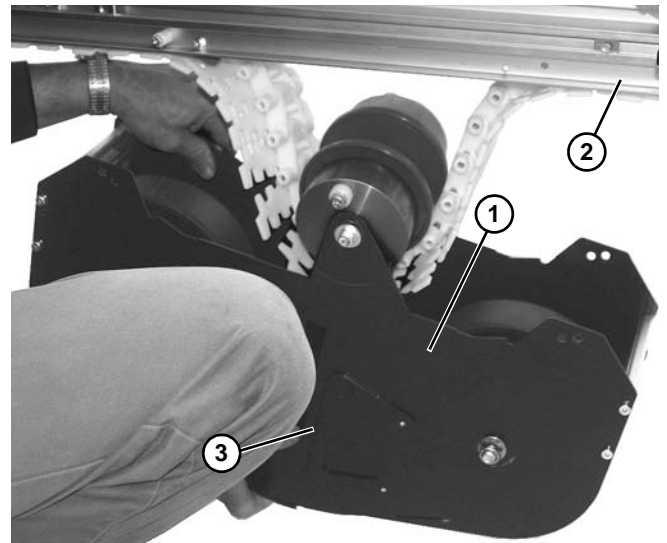

Figure 135
2. Lower weighted take up assembly (**Figure 135, item 1**) from conveyor (**Figure 135, item 2**) by disengaging locking teeth (**Figure 135, item 3**) on both sides.